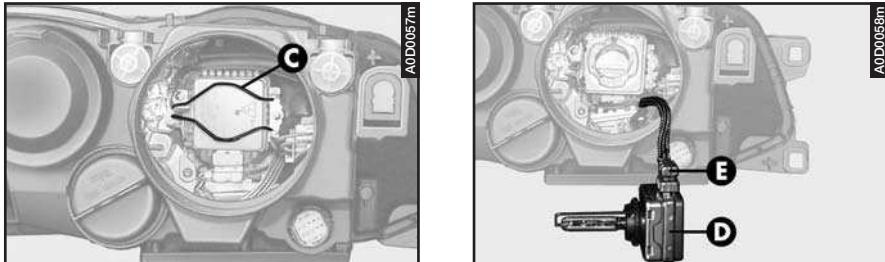

fig. 28
– Remove the bulb (**D**- fig. 28) and disconnect the snap-fitted connector (**E**).